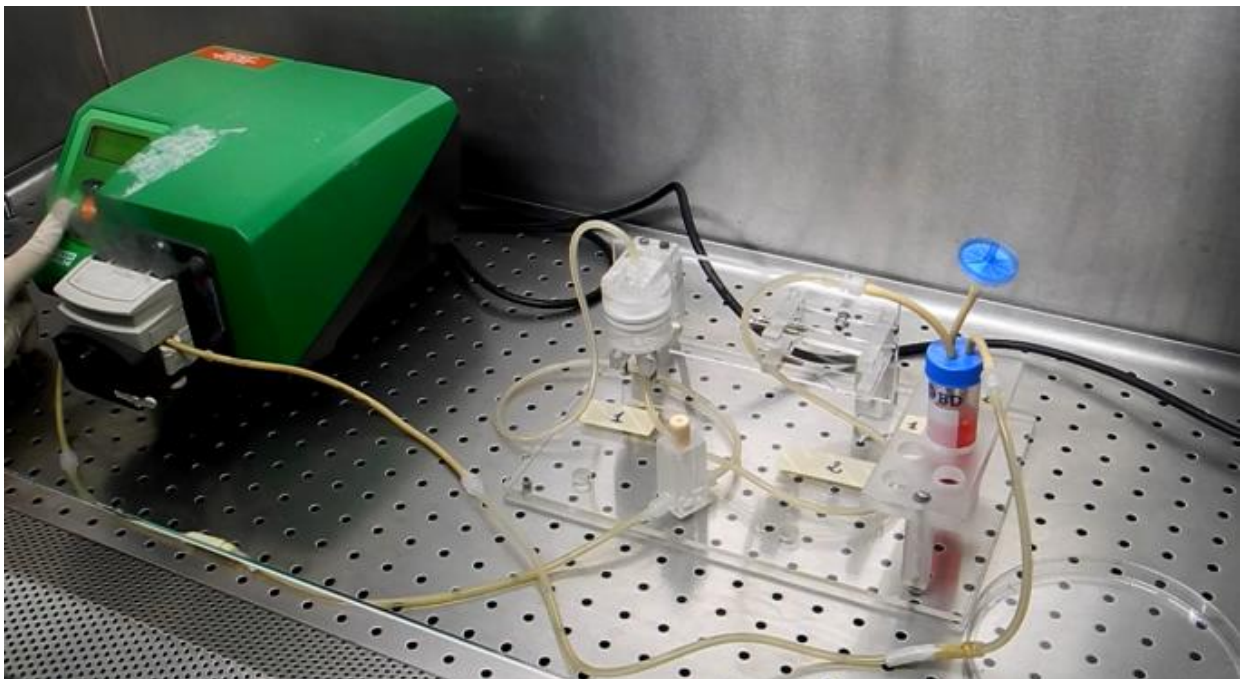

Figure 12a
- Operate the pump to fill the four circuits. The culture chambers must be rotated in vertical position to obtain filling of the culture chamber and simultaneous de-bubbling (Figure 12a,b). Use a very low flow rate to fill the circuits, not exceeding 0.1 mL/min, to avoid damage and/or washout of the seeded cells.